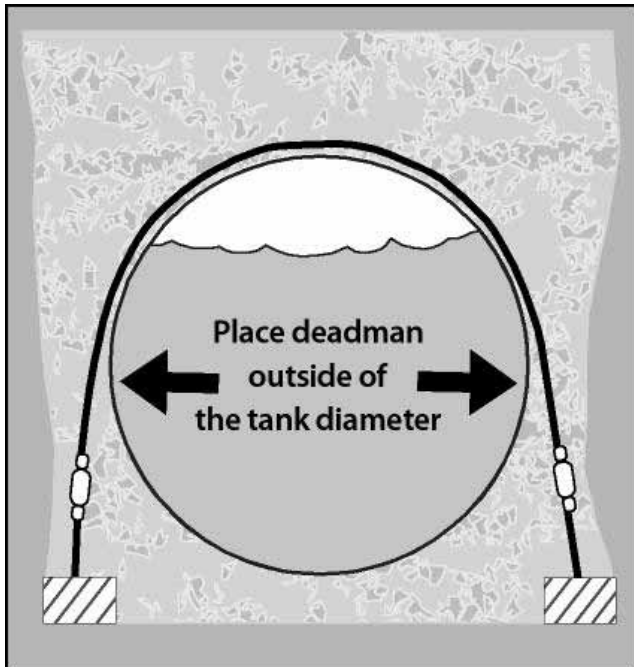

Figure 3. Deadman anchors increase the amount of backfill bearing down on the tank to offset buoyancy.
- Use deadman anchors. Deadman anchors are beams of reinforced concrete that are placed along the sides of a tank. Extending straps are placed over the tank and attached to the anchors. (See Figure 3.)